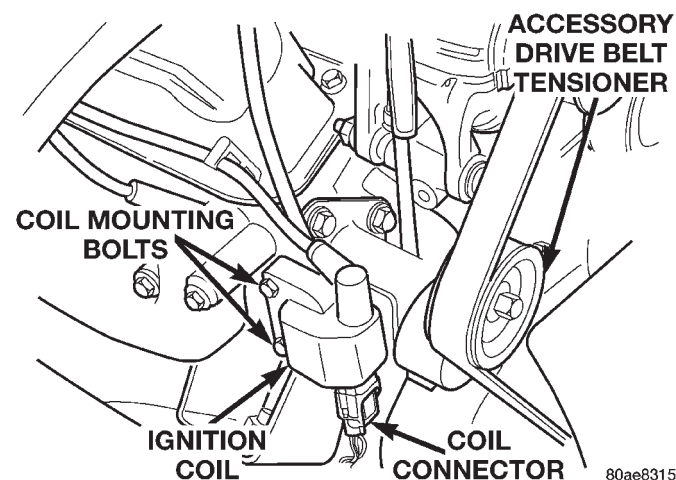

Fig. 41 Ignition Coil—3.9L V-6 or 5.2/5.9L V-8 LDC-Gas Engines
3.9L V-6 or 5.2/5.9L V-8 LDC-Gas Engines: The coil is mounted to a bracket that is bolted to the front of the right engine cylinder head (Fig. 41). This bracket is mounted on top of the automatic belt tensioner bracket using common bolts.